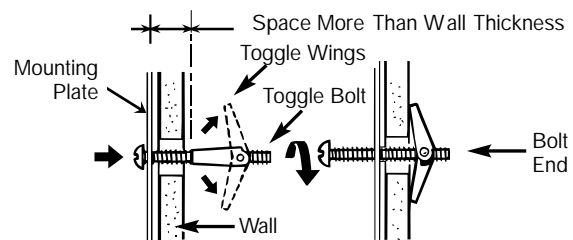

Figure 27
4. Attach the plate to the wall. To use spring toggle head bolts: Remove the toggle wings from the bolts. Insert the bolts into the mounting plate and replace the spring toggle head to 3/4" past the bolt ends. Insert the spring toggle head into the holes in the wall to mount the bracket. You may pull forward on the bracket to help in tightening the toggle bolts. Tighten all bolts. See Figure 27.